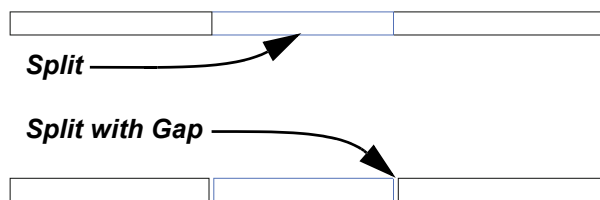

Figure 2–42
-  (Split with Gap) splits the element at the point you select, as shown in Figure 2–42, but also creates a *Joint Gap* specified in the Options Bar.